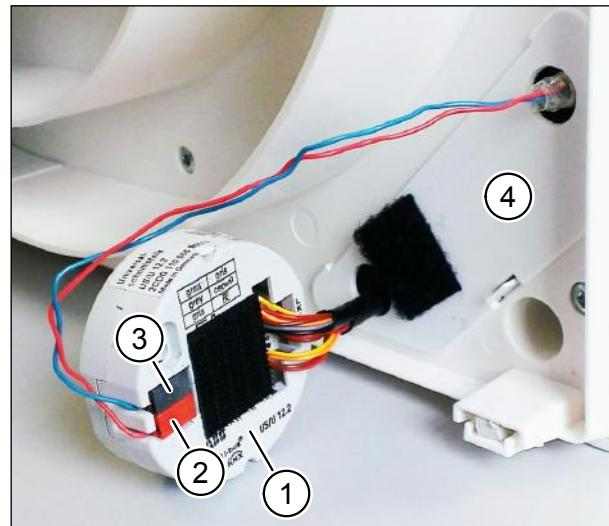

Fig. 18: Connecting the KNX bus cable to the KNX interface
- ▶ Detach the KNX interface (item 1 in Fig. 18) from the network connection cover (item 4 in Fig. 18).
- ▶ Connect the "+" bus wire to the red terminal (item 2 in Fig. 18).
- ▶ Connect the "-" bus wire to the grey terminal (item 3 in Fig. 18).
The board with the terminal blocks is located behind the network connection cover (item 4 in Fig. 18).
- To program the KNX interface, press the programming button (see item 4 in Fig. 14 on page 21). First detach the KNX interface from the network connection cover (see item 4 in Fig. 18 on page 25).
- ▶ Fix the KNX interface to the Velcro dot on the network connection cover once more (see Fig. 18 on page 25).